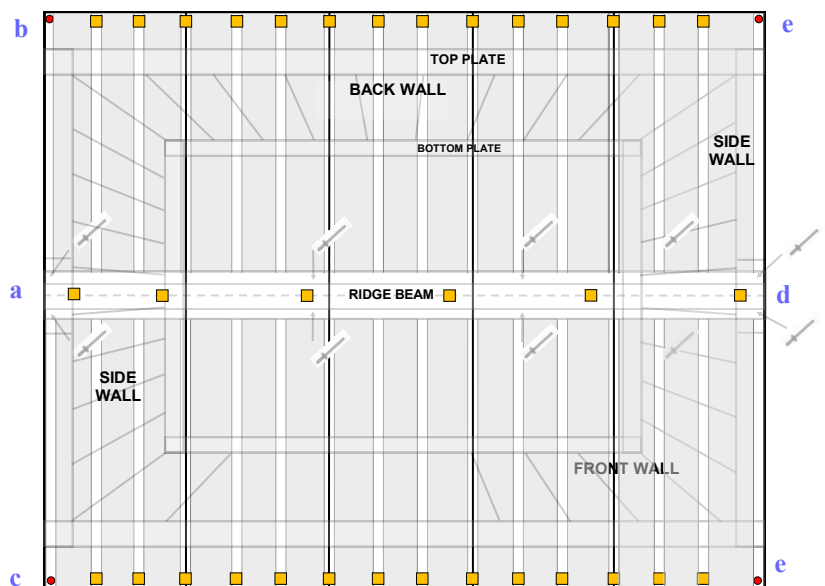

fig.2
- Rivet the 2 Ridge Caps together using 4 x rivets, so total flashing is 2.550m long. Rivet the Ridge Cap to the centre of the roof using 8 x rivets as shown (fig.2).